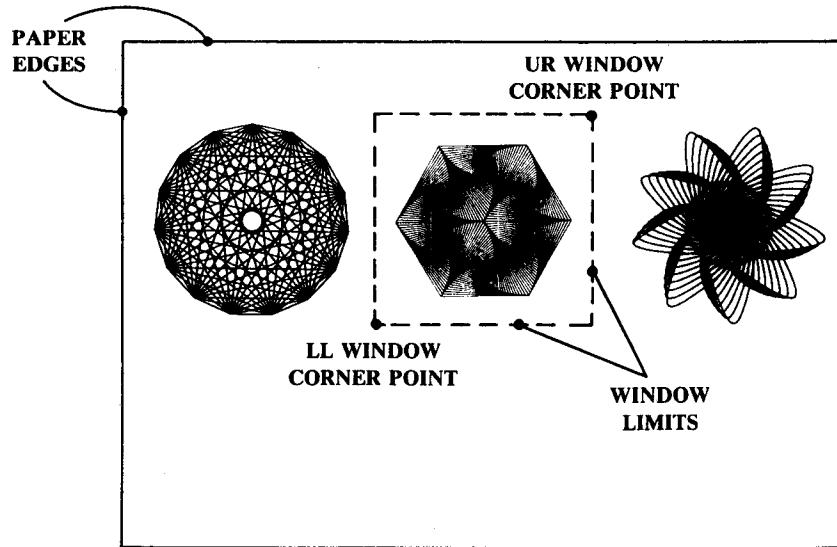
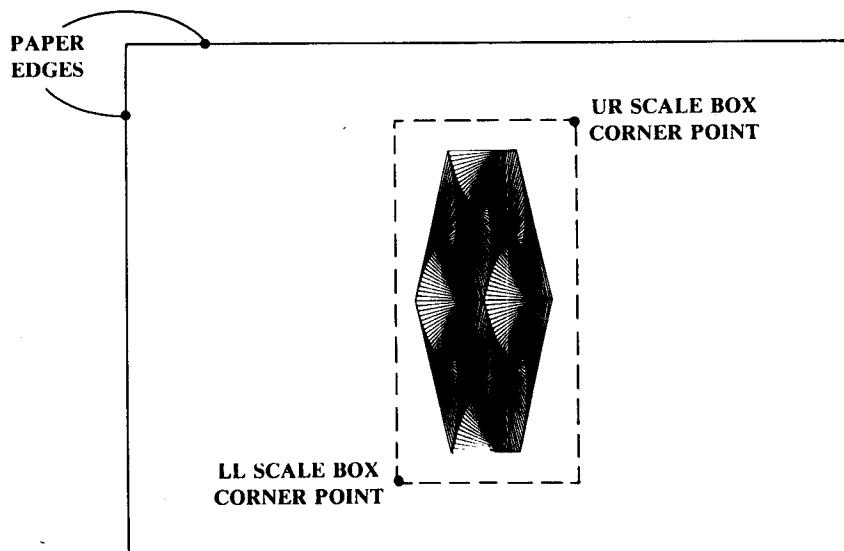
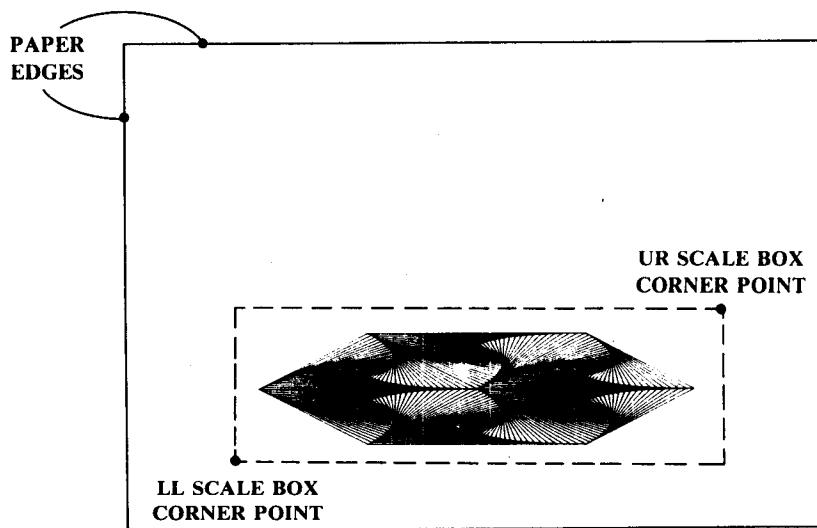
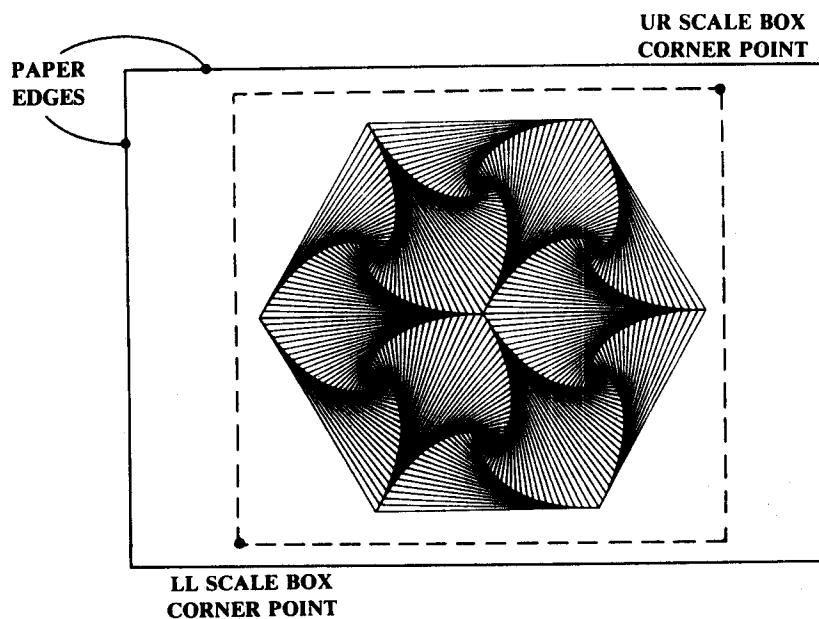

FIGURE 2-6. WINDOW LIMITS AROUND A SUBPART OF A PLOT DESIGN
FIGURE 2-7. A SCALE BOX THREE TIMES THE HEIGHT OF THE WINDOW
FIGURE 2-8. A SCALE BOX THREE TIMES THE LENGTH OF THE WINDOW
FIGURE 2-9.
The subpart of a plot design that is selected to be replotted is called a *window plot*. A window plot is created by specifying an imaginary rectangle around a subpart using two points, called the *lower left (LL)* and the *upper right (UR)* *window corner points* (see Figure 2-6). The lines of the imaginary rectangle are called *window limits*. Only the plot codes within the specified window limits are processed by the plotter when the program is rerun; thus, only the subpart (window plot) appears on the chart.
For example, if a scale box rectangle is specified the same length as the Figure 2-6 window, but three times the height, the subpart plot will appear stretched in the vertical direction when the program is rerun (see Figure 2-7). If the scale box rectangle is specified the same height as the window, but three times the length, the subpart plot will appear stretched in the horizontal direction (see Figure 2-8). If the scale box rectangle is specified three times the height and the length of the window rectangle, the subpart plot will appear three times as large (see Figure 2-9).